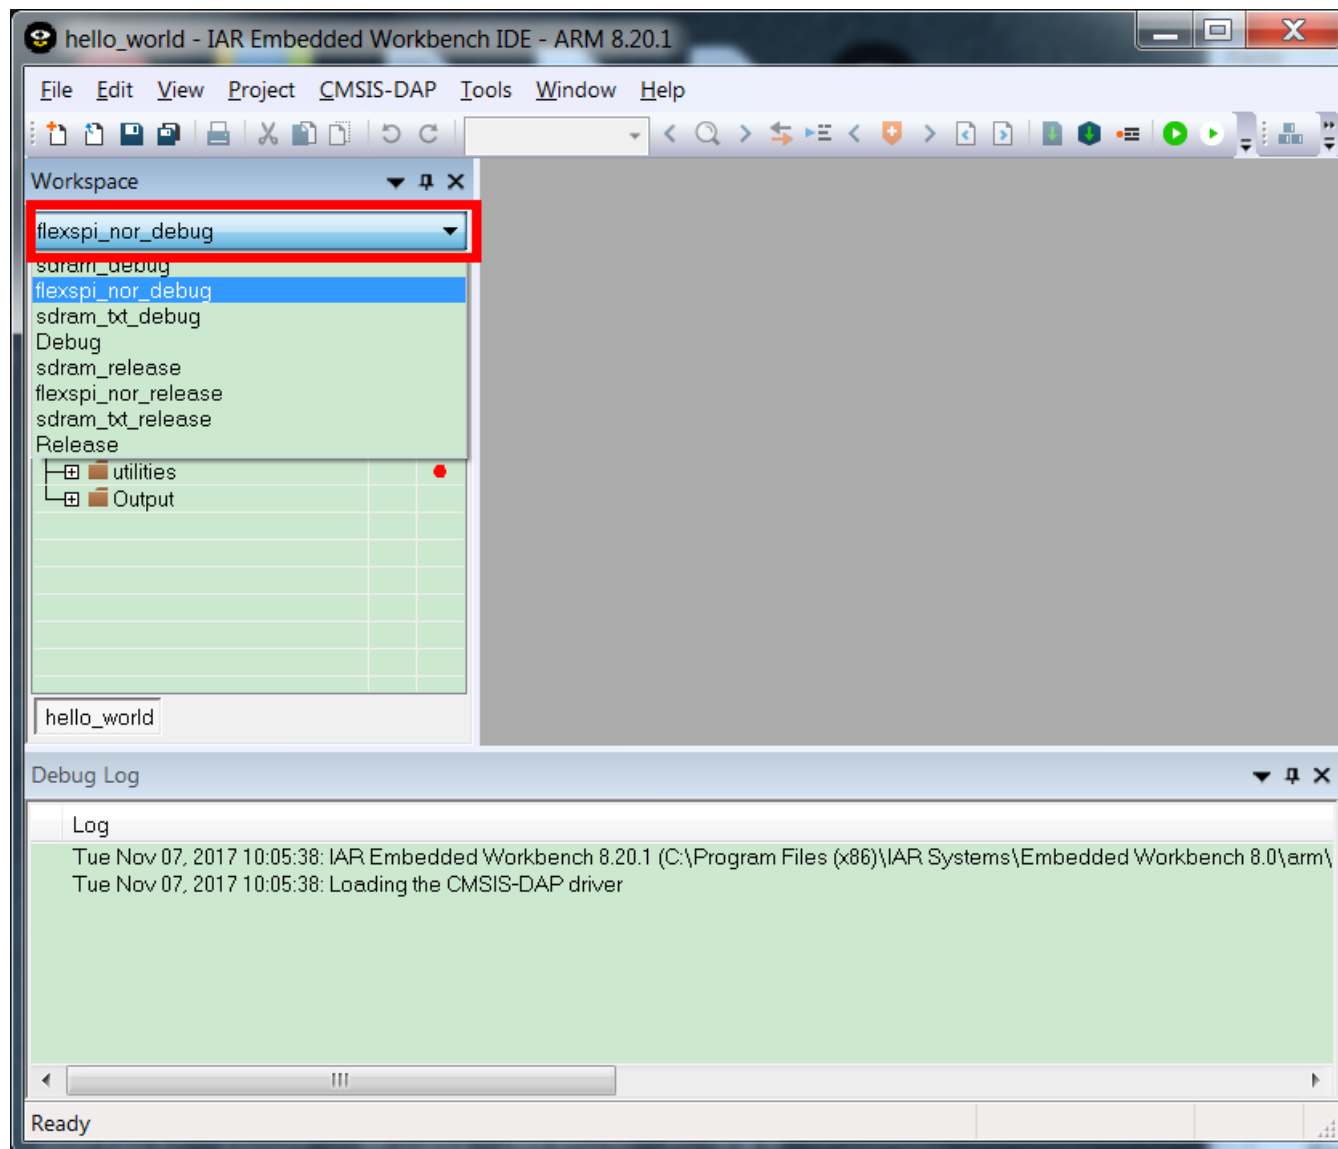

Figure 11. Select the project configuration as flexspi_nor_debug
- Open the Hello world demo in the SDK and select the project configuration as flexspi_nor_debug Figure 11.